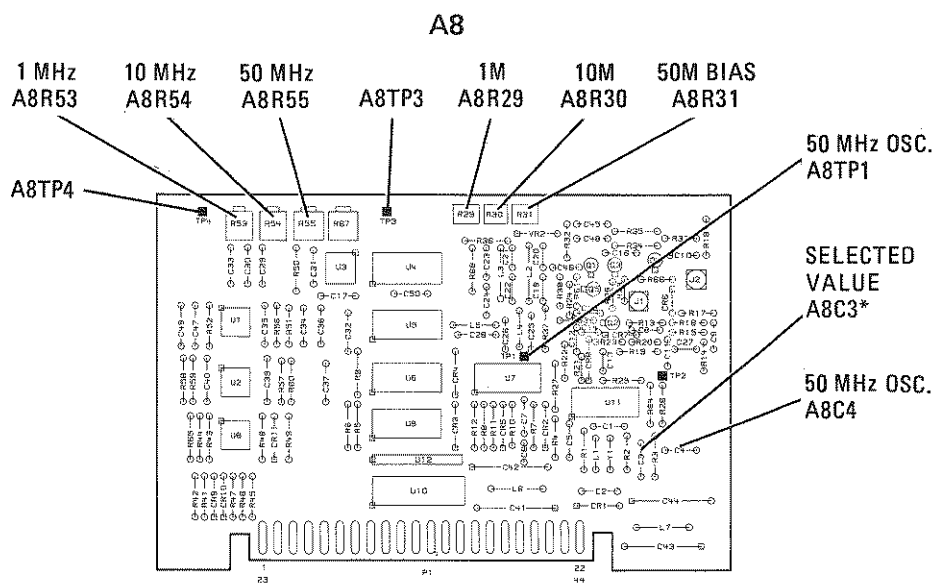
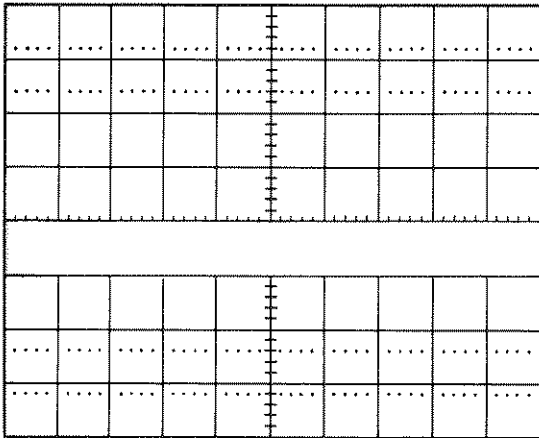

Figure 5-38. Marker Adjustments on A8
Figure 5-39. Marker Envelope
2. Set 8350A start/stop sweep for 10 MHz to 2.0 GHz. Select 83525A AMPTD MARKERS. Connect counter with 1 : 1 capacitive probe to A8TP1. Adjust A8C4 (Figure 5-38) for frequency counter indication of 50 MHz \pm 250 Hz. If A8C4 does not have the range required to adjust the 50 MHz crystal oscillator, select a new value for A8C3. (An increase in capacitance will decrease frequency.)
3. Select 100 ms Sweep Time. Connect oscilloscope with 1:1 probe to A8TP3 (Figure 5-38). Set 8350A power to +13 dBm and select 1 MHz Markers. Adjust A8R29 (1M) for the flattest envelope height. (See Figure 5-39.) Select 10 MHz Markers. Adjust A8R30 (10M) for the flattest envelope height (Figure 5-38). Select 50 MHz markers. Adjust A8R31 (50M) for the flattest envelope height. (Optimum setting for these adjustments will be ones that provide the most uniform birdie height across the band with the adjustments nearest the center of their range. Especially note birdie height at the high-frequency end and set the adjustment just before the marker amplitude drops off.
4. Connect oscilloscope to A8TP4 (Figure 5-38). Set RF POWER to 0 dBm. Adjust IF gain potentiometers A8R53 (1 MHz), A8R54 (10 MHz), and A8R55 (50 MHz) for each marker frequency to an average envelope height of 1.0 V p-p.